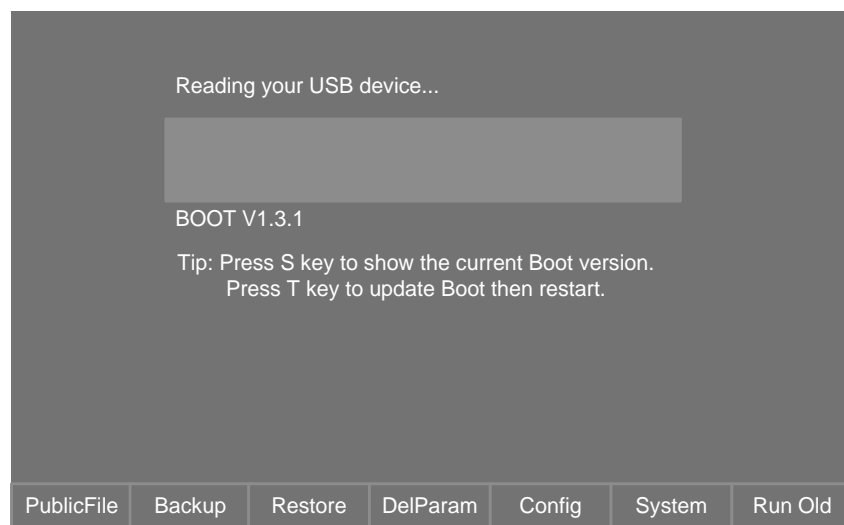

Fig. 4-1 Software Update Interface
- 2) Re-power on NK260 and simultaneously press G key on the operational panel several times. It jumps to a software update interface as shown in Fig. 4-1, displaying that USB device identification is going on.
Access [System info] interface under [System] function area, and press F2 button to open the “Update software” interface (as Fig. 4-1).
- 5) After the system mirror image update is completed successfully, the system begins to identify the USB device. When USB device identification succeeds, it will jump to “Update Software” interface (Fig. 4-1) automatically.